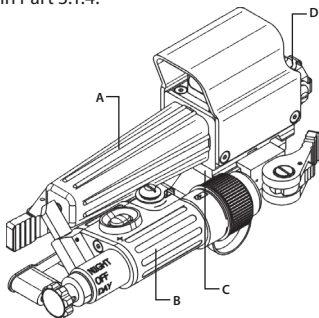

FIGURE 3-8. AIM-PRO ASSEMBLED WITH AN OPTIONAL RED DOT SYSTEM
1. Mount the Red Dot System (A, Figure 3-8) to the AIM-PRO (B) using the rail (C). The mounting procedure is identical to that of mounting a 3X Magnifier, as shown in Part 3.1.4.